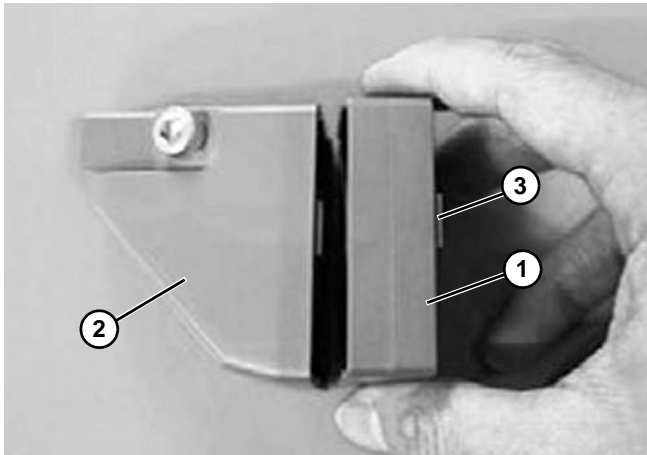

Figure 82
1. Attach the spacer (Figure 82, item 1) onto FGRF- 42x18V (Figure 82, item 2) and install correct length T-bolt (Figure 82, item 3).